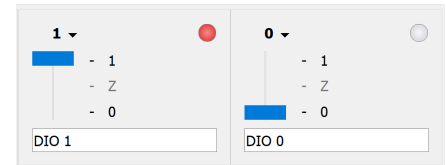

Figure 6: Static I/O Switches
**Switches:** Configure Digital I/O signal 1 into a switch by selecting 1, Switch, Push/Pull (1/0) as seen in Figure 6. Also configure Digital I/O signal 2 into a switch. When the switch is at 0, it outputs 0V. When the switch is at 1, it outputs 3.3V. Move the switch and observe the dot in the upper right hand corner. These switches can be used in place of a DIP switch and SIP resistor package.